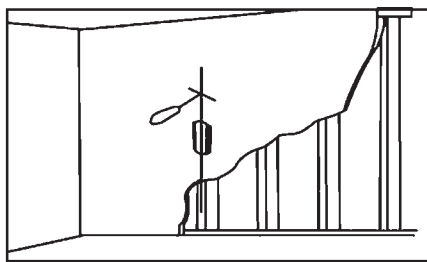

Fig. 3b
1. Use a pencil, awl, or a nail to mark the location of the wall stud centers (Fig 3b) after locating the stud with an electronic stud locator. The distance between marks should not be less than 16 inches (Studs must not be less than 16 inches 40.6 cm).